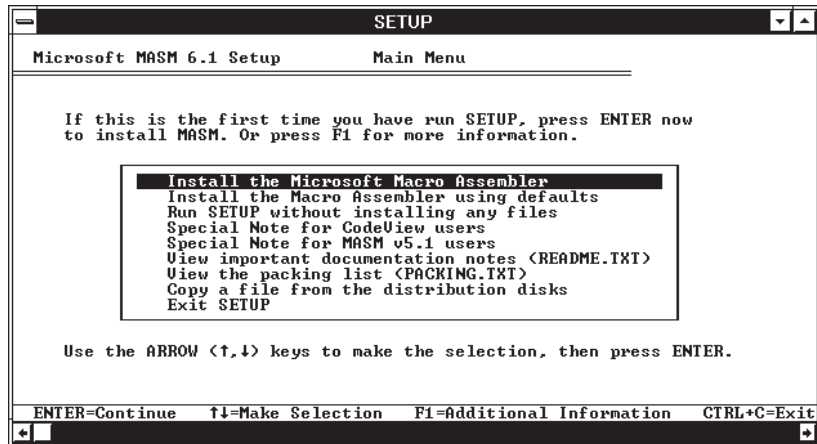

Figure 2.1 SETUP Main Menu screen.
4. Press ENTER again to display the Main Menu screen in Figure 2.1.
After SETUP is complete, the SETUP Main Menu screen, shown in Figure 2.1, appears.